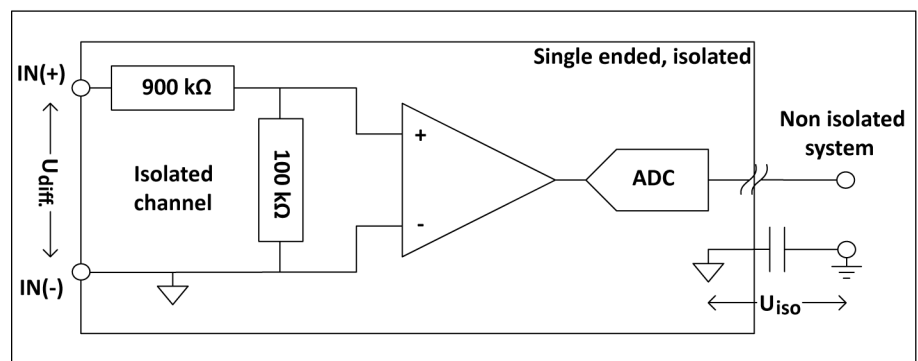

Figure 12.12: Single ended Isolated input channel
- The isolated ground is externally accessible as shown in Figure 12.12.